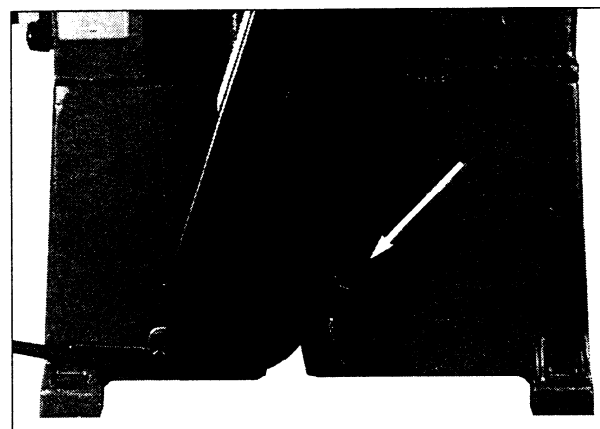

Figure 2
5. The 1 HP motor is protected by a thermal overload limit switch that must be manually reset if an overload occurs. Access to the reset button is through a hole in the base casting (Figure 2).